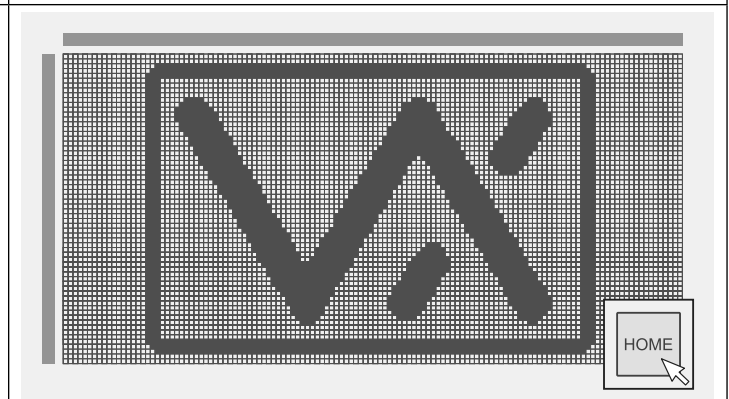

Fig. 92
5. Next click on the home screen icon to switch back to the imported image/logo from step 1, as shown in **Fig.92**.